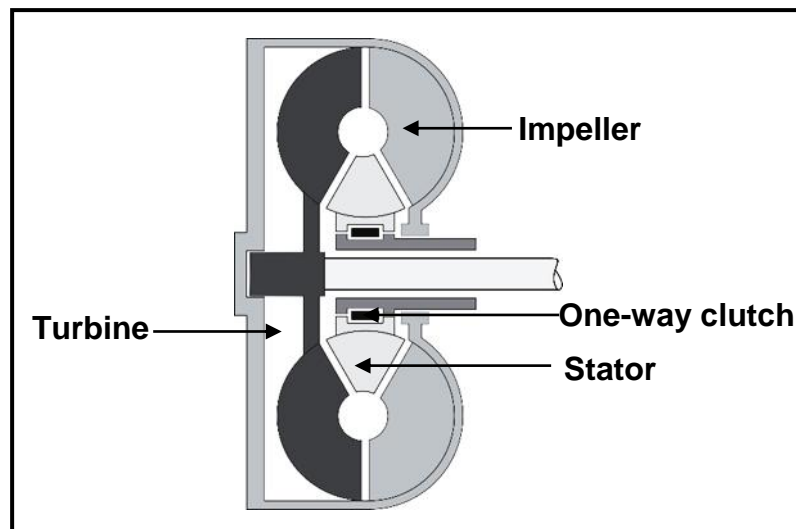

FIGURE 9.2
- 9.2 FIGURE 9.2 below shows a torque converter used in automatic transmissions.